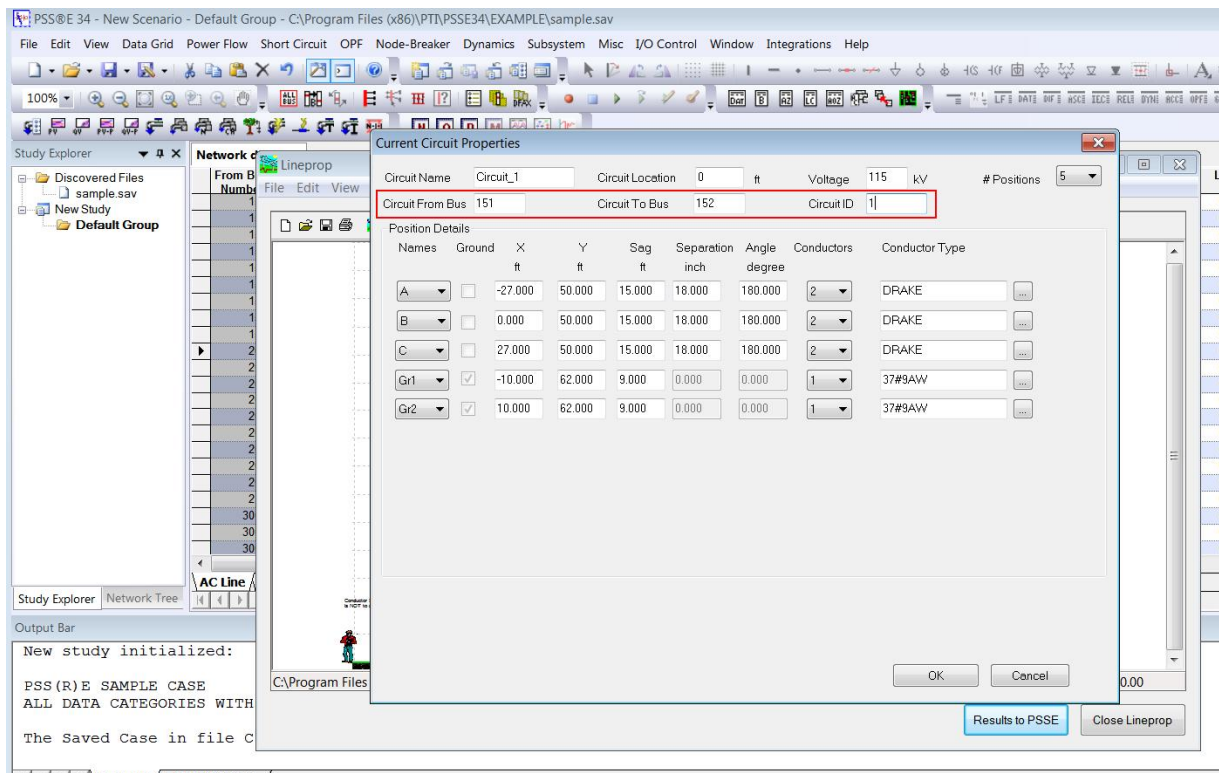

Figure 5 - Circuit Additions
- b. Replicating the results on the “Branch” tab within PSSE, providing that the specified tobus, frombus, and circuit id values are valid per circuit (see Figure 5 for these new additions)
Each circuit should have defined values as shown in Figure 5. These values are used in determining which branch values to update, if applicable, when the user chooses to route results automatically to PSSE. Calculations can be done without these values, but results will not be routed to PSSE without manual intervention.